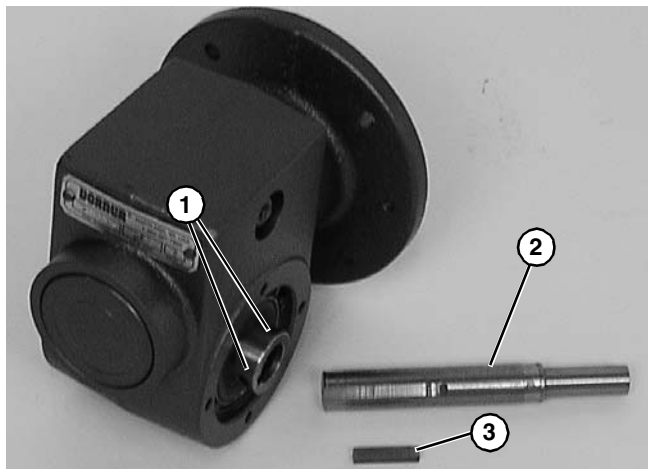

Figure 25
1. Loosen six (6) set screws (Figure 25, item 1). Remove drive shaft (Figure 25, item 2) and key (Figure 25, item 3).
3. Replace the original shaft components into new gear reducer (Figure 25).